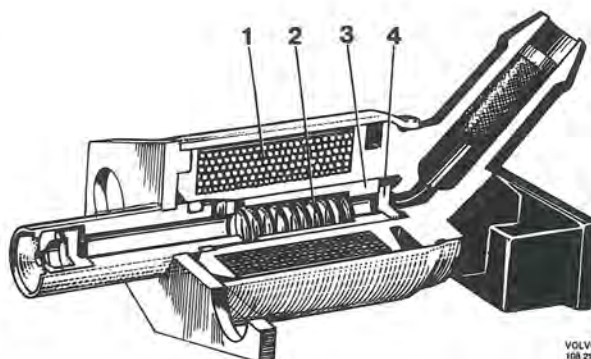

Fig. 2-59. Cold start valve
The cold start valve consists of a housing in which a magnetic winding and an armature are housed together with a return spring and packing, see Fig. 2-59. When the magnetic winding (1) is not in circuit, the packing (4) presses against the inlet for the armature (3) which in its turn is actuated by the return spring (2). This keeps the cold start valve closed.